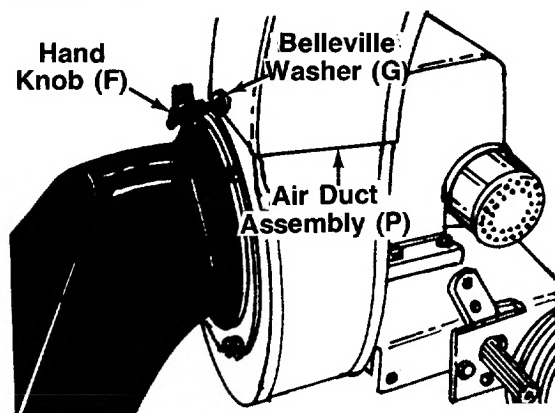

FIGURE 6.
Place air duct assembly (P) over opening on top of housing. Secure with two hand knobs (F) and belleville washers (G) (cupped side of washers against the air duct assembly). See figure 6.